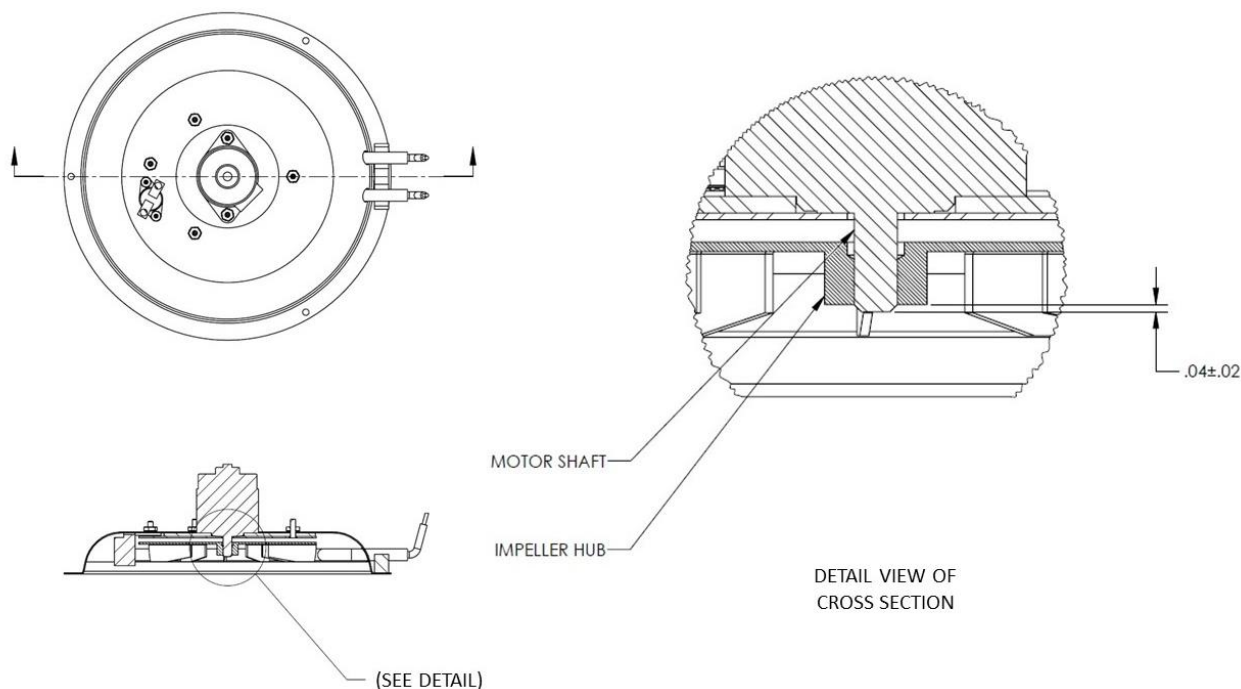

Figure 5.3. Impeller Installation
- Set location on Shaft so that only tip (.04±.02 inch [1±0.5mm]) length is exposed beyond Impeller hub. (Figure 5.3)